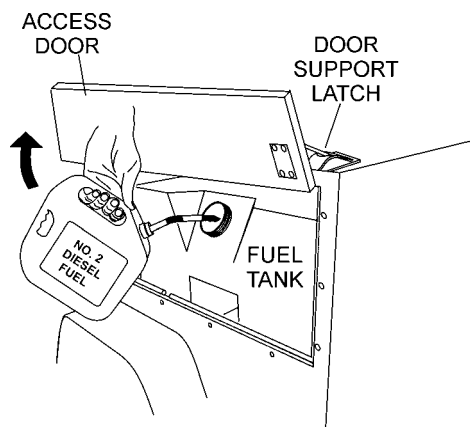

Figure 12. Adding Fuel
- Lift the light tower access door (Figure 12) opposite the control panel. Set the door support latch in place to keep the door open (up).
- Remove the fuel cap from the fuel tank as shown in Figure 12.